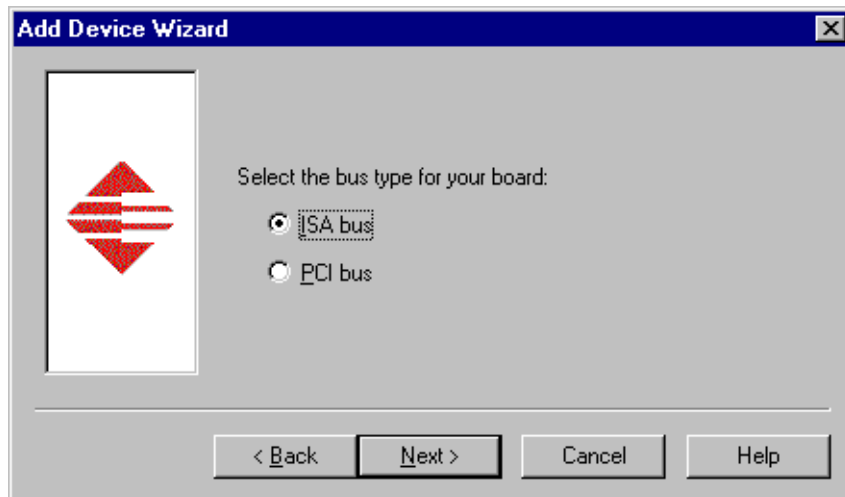

Figure 4. Select the ISA bus type.
8. The Add Device Wizard starts. Click **Next** to continue, then select ISA bus as the bus type (see Figure 4) and click **Next** again.